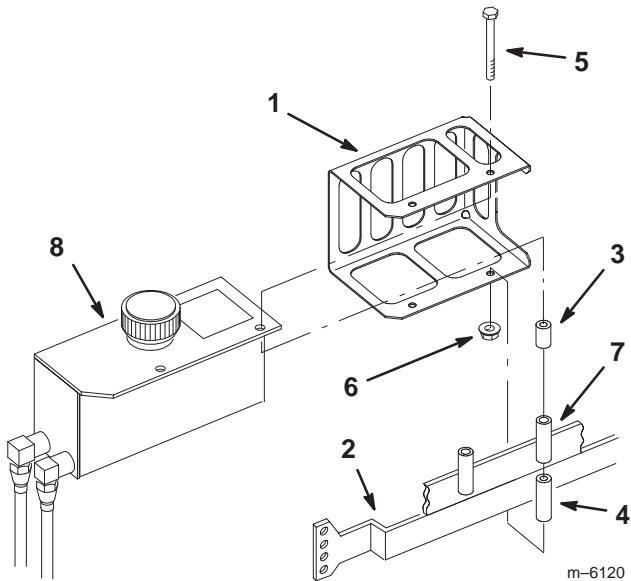

Figure 16
2. Install the hydraulic tank heat shield with previously remove hardware (Fig. 16).